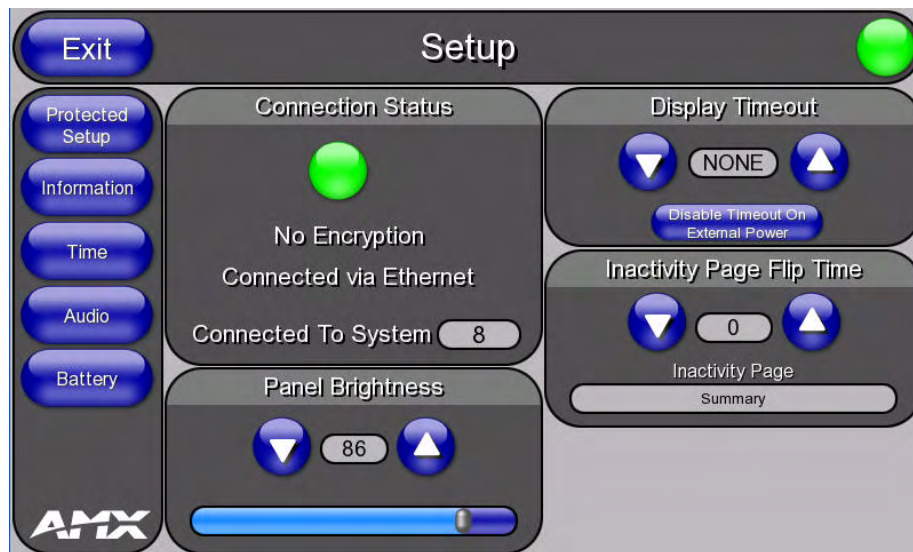

FIG. 13 Setup page
1. At any time, use the device's stylus to press down and hold the reset button on the left side of the device for 3-5 seconds. This opens a release notice to release the button immediately to open the *Setup* page (FIG. 13).